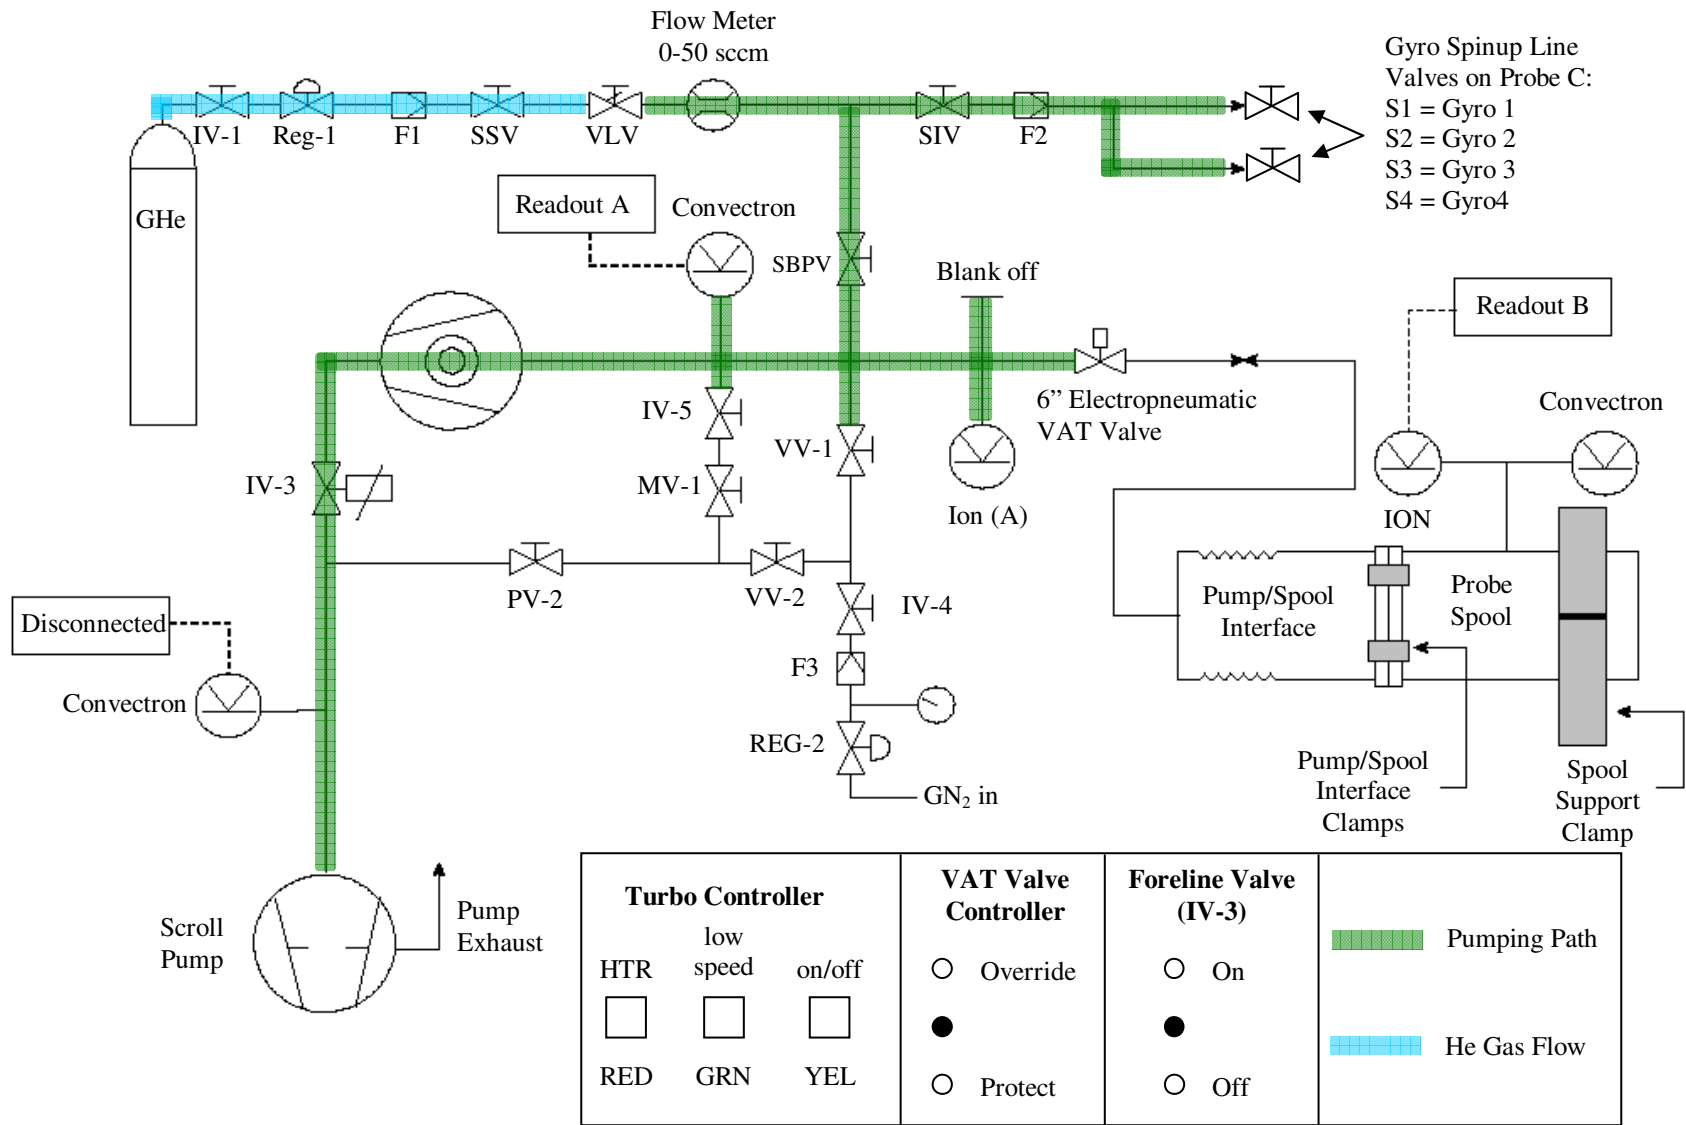

Figure 1: Configuration to Open SBPV if it is closed
6.1.4 Verify again that VLV is closed, and open SSV. The configuration should now be as in Figure 1